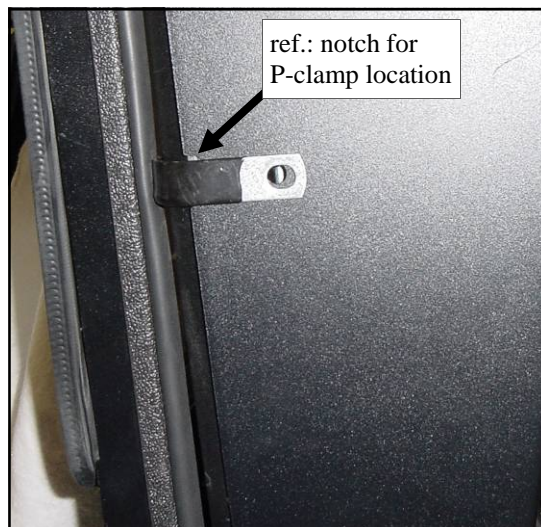

Fig. 6.7 (view from rear of vehicle)
6.7 Per fig. 6.7, re-position the previously installed P-clamp so that it lines up with the notch and the bolt hole as shown. Each clamping leg of the P-clamp should straddle the sheet metal thickness of the hinge plate assembly so that only the flat portion is outboard as shown. The other leg of the P-clamp is on the inside surface (not shown).